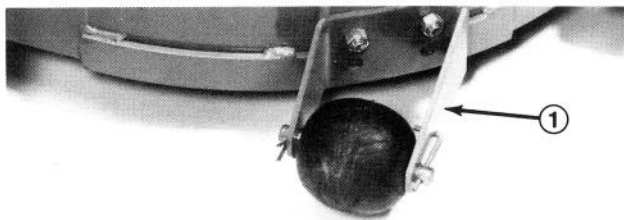

Figure 12
**Note:** If cutting unit is to be used in 1 in. (25 mm) or 1-1/2 in. (38 mm) height-of-cut setting, rear cutting unit rollers must be positioned in the appropriate bracket holes (Fig. 12 & 13).
1. Remove nuts securing rear rollers to outside of cutting unit (Fig. 12).